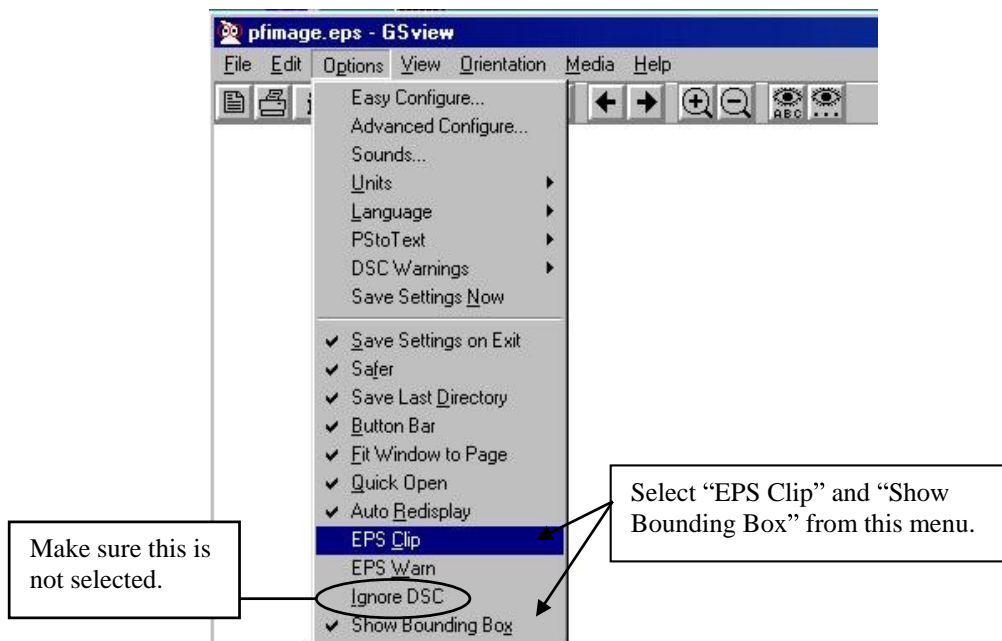

Figure 46a: After opening the PostScript file using GSView, make sure the “EPS Clip” and “Show Bounding Box” options are set as shown above.
2. Go to the “Options” menu and select ‘EPS Clip’ and ‘Show Bounding Box’ options (Figure 46a).